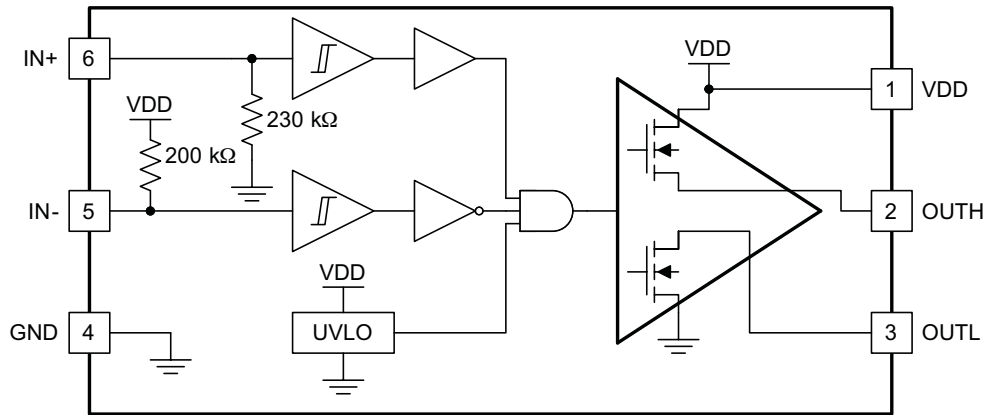

**Figure 4. Enable and Disable Function Using IN- Pin**
(3) See timing diagrams in Figure 1, Figure 2, Figure 3 and Figure 4.